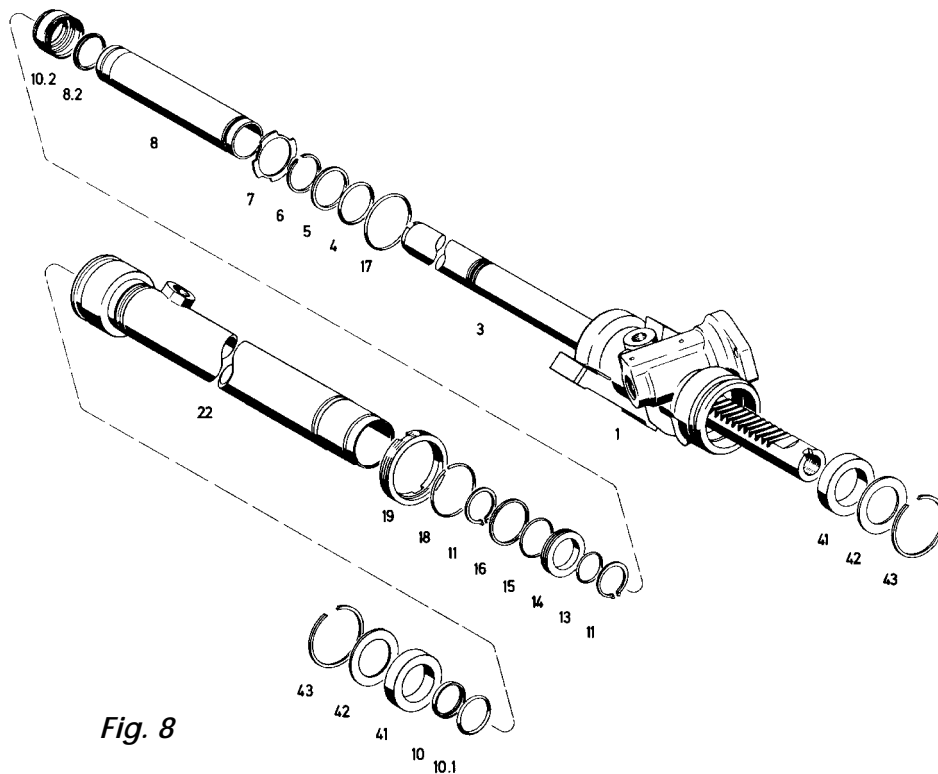

Fig. 8
Using tool [4], screw out the threaded ring (19) (*Fig. 8*).
6.1 Versions with cylindrical tube (22)
Pull the rack (3) and the spacer tube (8) out of the cylindrical tube (22) (*Fig. 8*).
Version without guide ring (9) (**Fig. 8**)